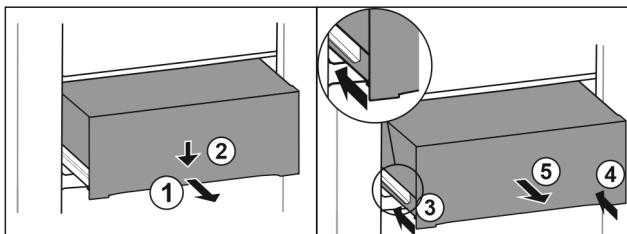

Fig. 118
- ▶ Pull out the drawer halfway. Fig. 118 (1)
- ▶ Press down the drawer on the front. Fig. 118 (2)
- ▶ Push in the left rail approximately 2 cm (13/16 in). Fig. 118 (3)
- ▶ Push in the right rail approximately 2 cm (13/16 in). Fig. 118 (4)
- ▶ Remove drawer to the front. Fig. 118 (5)